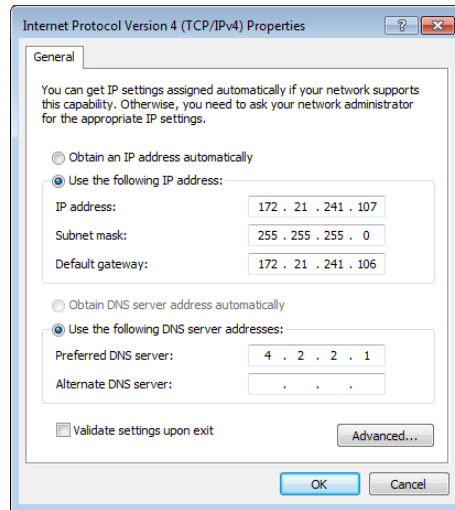

Figure 5. TCP/IP Properties
8. Configure your IP settings based on the TracLRI IP address that you recorded in step 6, using the TracLRI IP address as the Default Gateway, and make the IP address for the PC one number higher than the Gateway as shown below, then click **OK**. **Fig. 5**